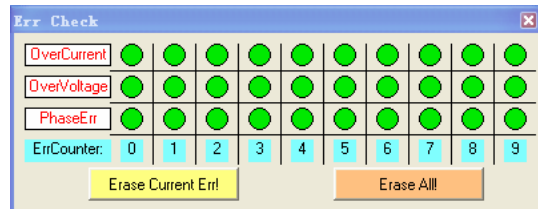

Figure 28: Error check window
- Error Check:** This window shows both the present status of each error event and their history. Current error event(s) can be reset by clicking **Erase Current Err!** button, and all error events can be reset by clicking **Erase All!** button. List of the last ten drive faults. #0 being the most recent, #9 is the oldest. See Figure 28.